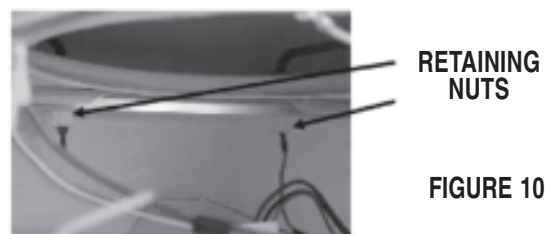

FIGURE 10
22. Accessing from below the tub assembly, loosen the heating element retaining nuts with a suitable wrench. (Fig. 10).